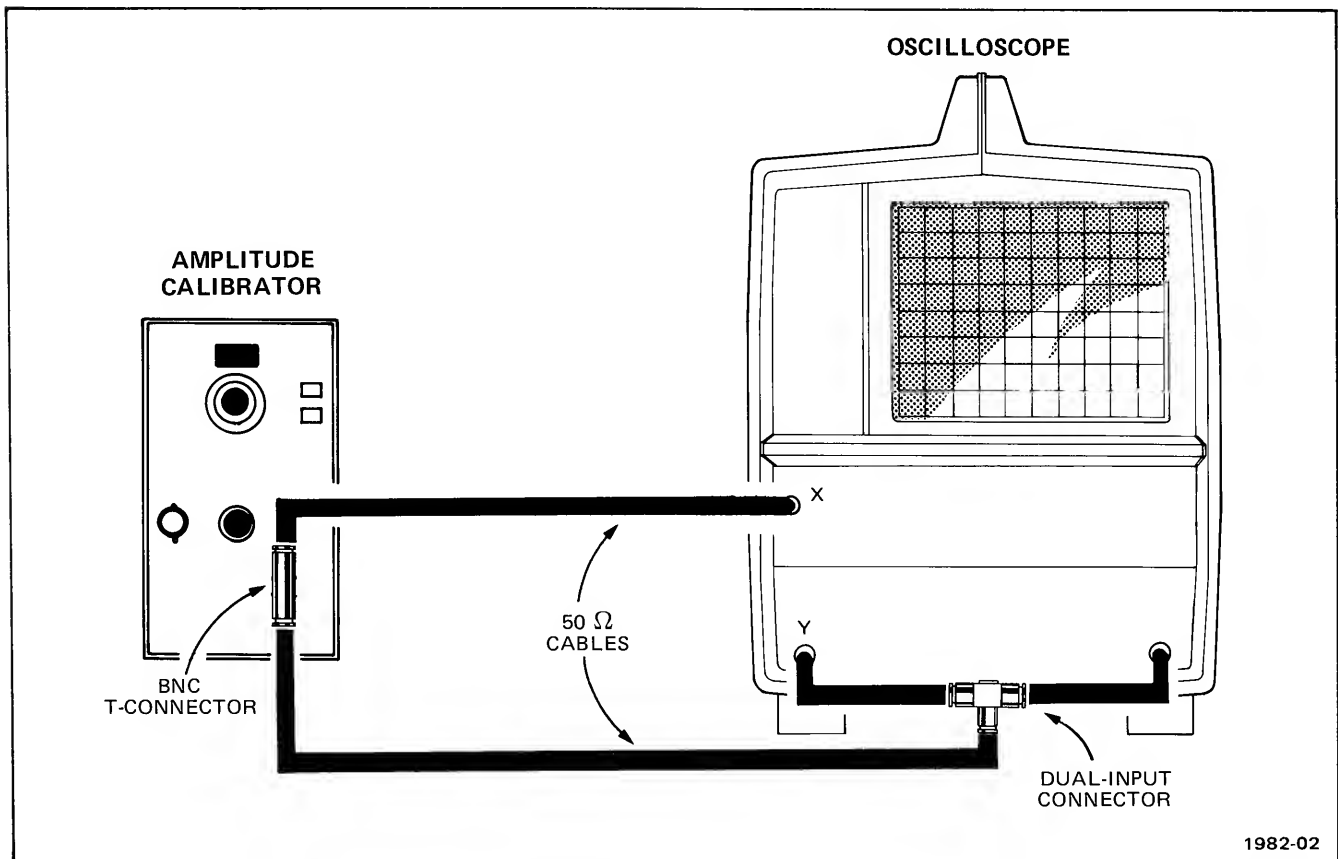

Fig. 3-1. Deflection accuracy check test setup.
a. Connect test equipment as shown in Fig. 3-1 (use appropriate POSITION control as needed to center the display within the graticule area).